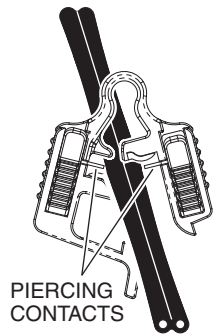

Fig. 10
- 1. Open main section of clip on the connector. (Fig. 10)